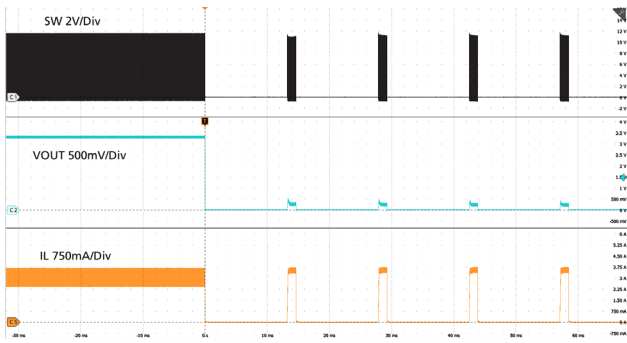

Figure 35. Hiccup after Output Short-Circuit
RAA211233 also has a V_{OUT} undervoltage (UV) protection. The internal undervoltage comparator compares the FB pin voltage to 65% of the reference voltage. When LSOC is detected, and this voltage drops below 65% of nominal (because of a drop in V_{OUT} to below 65% of its set point), the regulator stops switching and engages Hiccup mode operation at an interval of 13.5ms (see Figure 35).